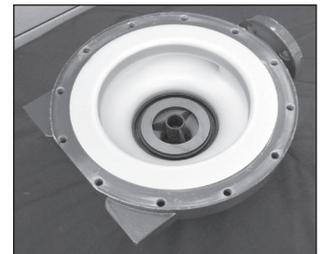

figure 32
1. Take the pump casing (item 1) and lay it suction side down on a clean flat surface. *See figure 32.*